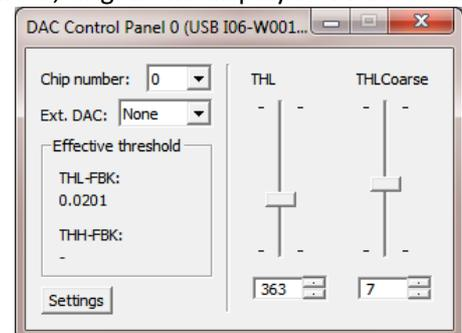

Figure 5 DAC control panel
**Medipix Control** → Tools → DAC Control Panel (see Figure 5)
The THL value is ambient temperature dependent, but should be around 350-380 ADC. *What do ADC and DAC stand for?* Set THL to about 15 units below the indicated value in Figure 5, e. g. if the displayed value is 363 ADC, set ~348 ADC.